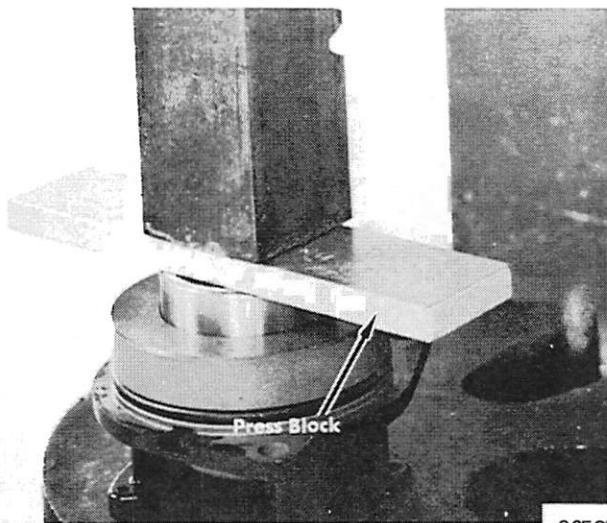

Figure 10. Installing End Cap Roller Bearing
(C-91-24715A2). (Figure 10)
13. Replace ball bearing, pressing in with arbor press while using Press Block (C-91-49193). (Figure 10)